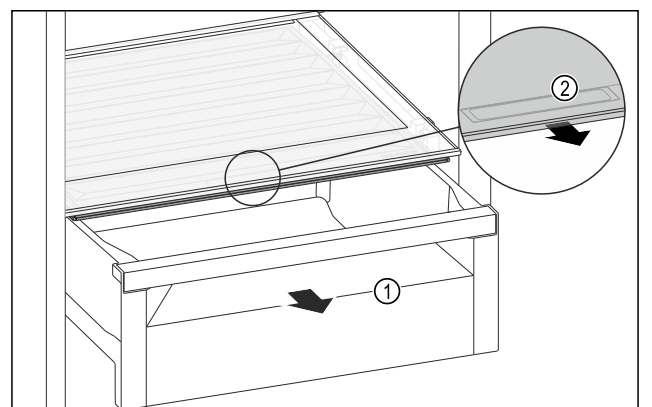

Fig. 171
- ▶ Pull out the drawer Fig. 171 (1).
- ▶ Grasp the recessed grip Fig. 171 (2) on the compartment lid and pull the compartment lid forwards at the same time.